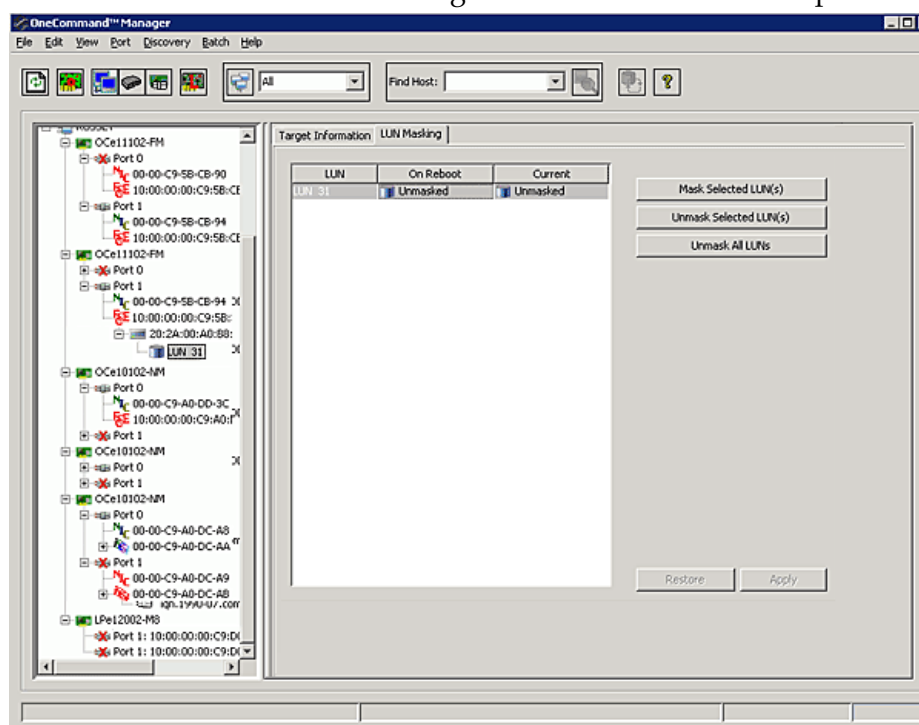

Figure 8-24 LUN Masking Tab
LUN masking refers to whether or not a LUN is visible to the operating system. A masked LUN is not available and is not visible to the operating system. You can use the LUN Masking tab (Figure 8-24 on page 148) to mask or unmask LUNs at the host level.
**Note:** The LUN Masking tab (Figure 8-24 on page 148) is not shown in Virtual Port view because LUN masking is not available for virtual ports.
3. Select the **LUN Masking** tab (Figure 8-24 on page 148). This tab contains a list of the same set of LUNs that appear below the FC/FCoE target in the discovery-tree (Figure 4-3 on page 40).
3. The LUN Information tab appears (Figure 8-24 on page 148).